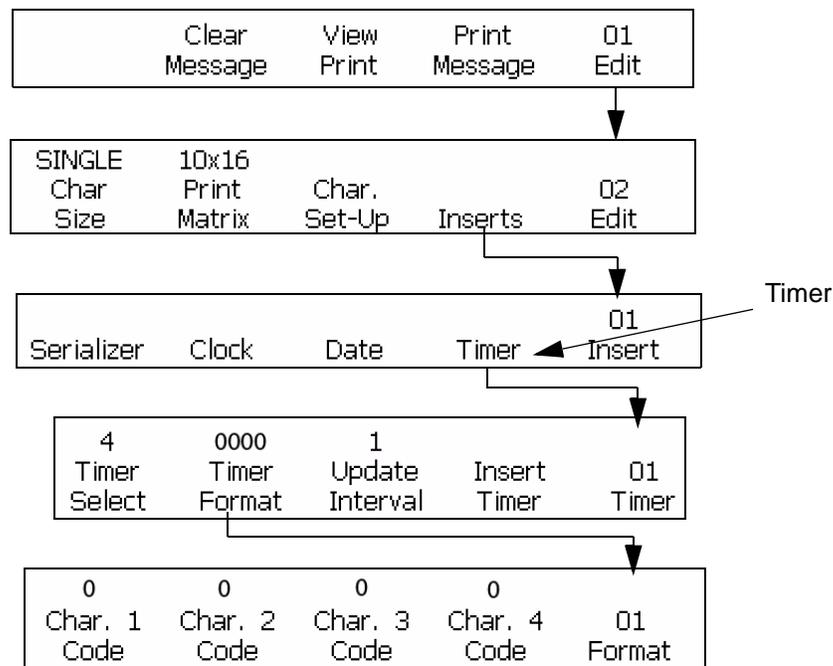

Figure 6-40: Accessing Frame <01 Timer>
- 1 Begin in the frame <01 Timer>. Refer to Figure 6-40 on page 6-56.
- 5 Press the F2 key to select <Timer Format>. Frame <01 Format> appears in the display screen. Refer to Figure 6-40 on page 6-56.